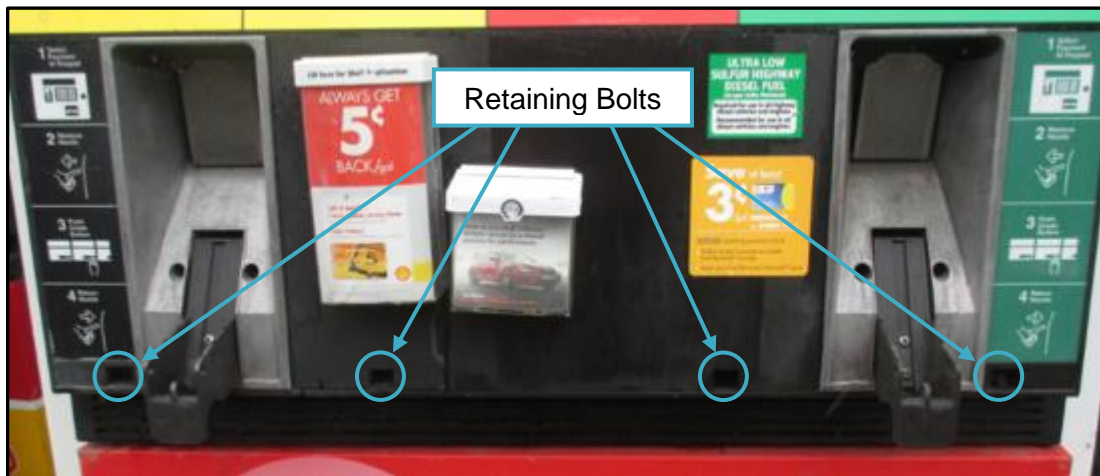

Fig. 1.1 – Remove the bolts from the main door
4. Using a 3/16" Hex key, undo the retaining bolts located along the bottom edge of the main door. Depending on the model and dispenser setup, there could be between two to four bolts to remove. The bolts should be captive but may fall out. Do not discard these bolts. (Fig. 1.1)